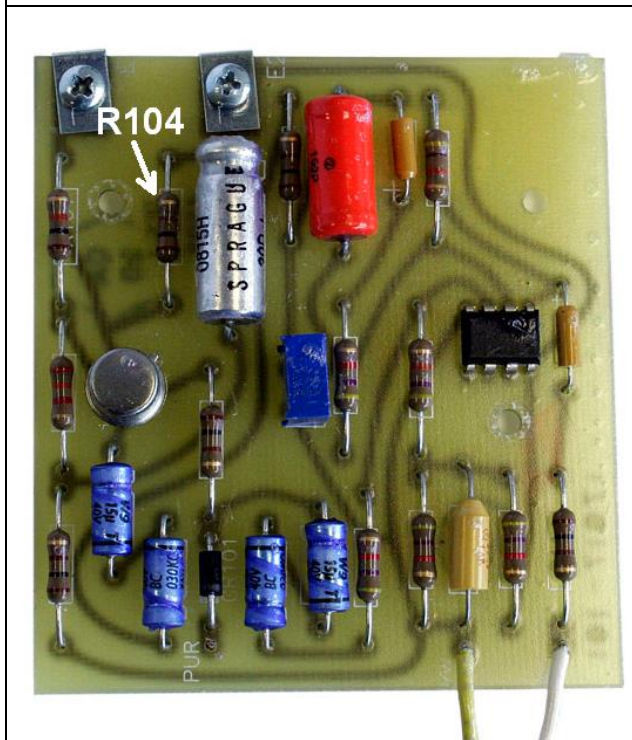

Figure 3. Amplifier PCB Assembly 69491-002
6. On the No. 69491-002 Amplifier PCBA, locate R104, which is adjacent to C101 and E2. Refer to Figure 3.